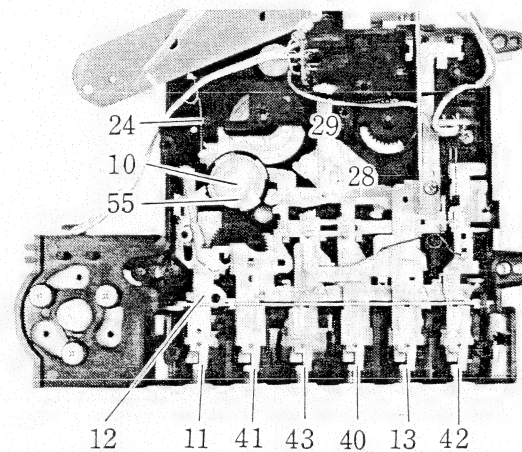

Figure 27.
5. Remove 12, 11, 13, 41, 43, 40 and 42 in order. (Fig. 27)